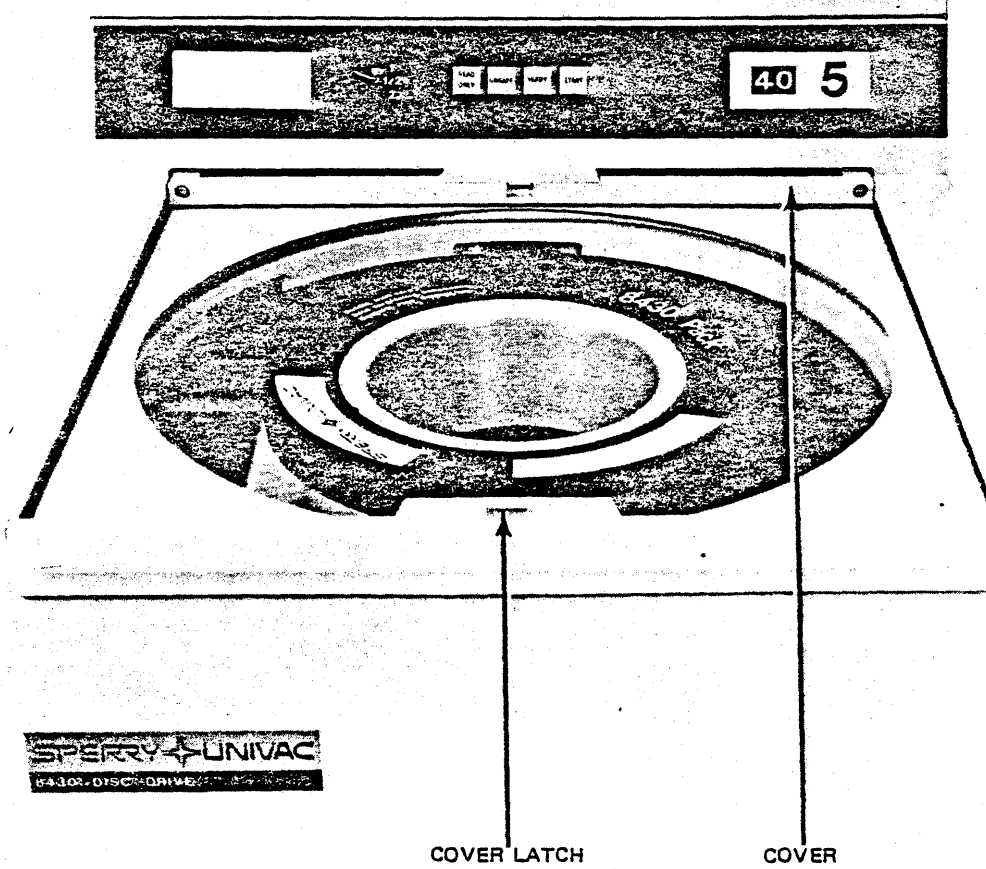
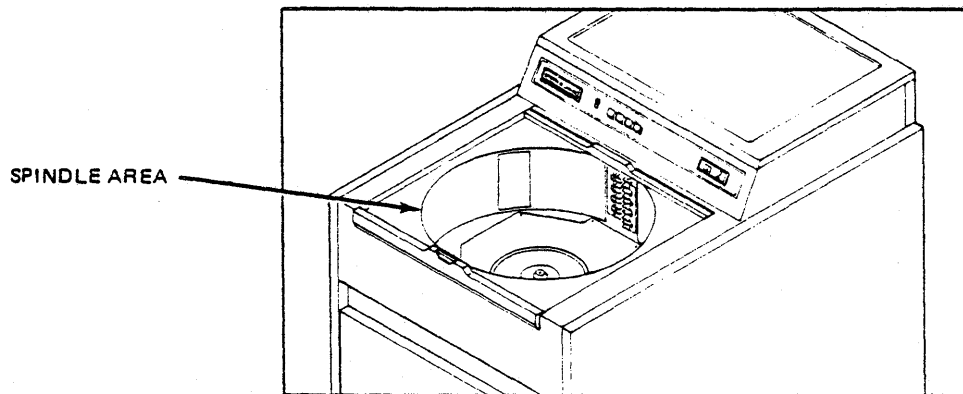

Figure 4-1. Disc Unit With Operator Cover Open for Disc Pack Access
Figure 4-2. Disc Pack Well in Disc Unit
2. Push and release the disc unit cover latch. The cover will spring open (Figure 4-1). Slide the cover straight back to fully expose the spindle area (Figure 4-2).